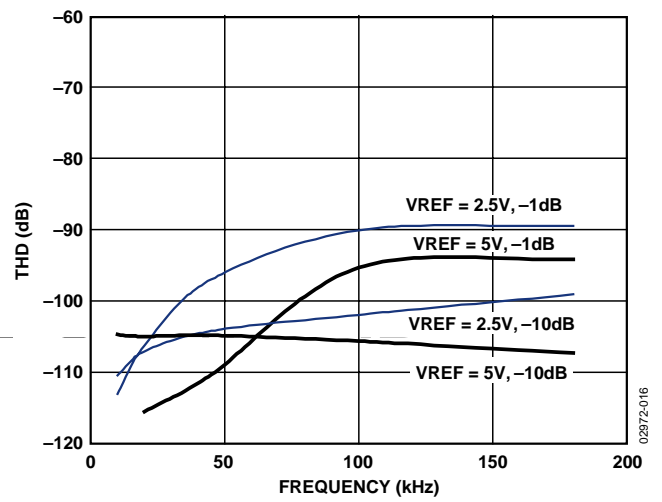

Figure 17. THD vs. Frequency
- For ac applications, the driver should have a THD performance commensurate with the AD7687. Figure 17 shows the THD vs. frequency that the driver should exceed.